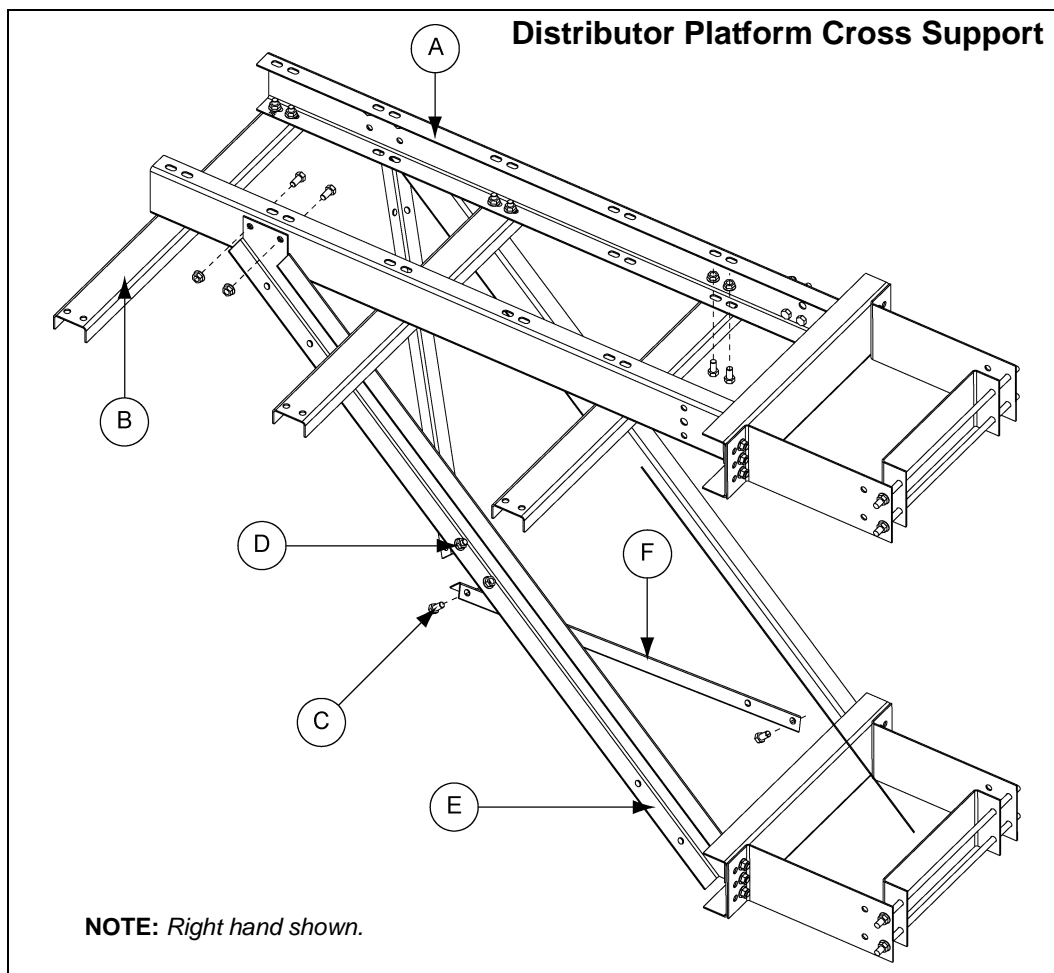

Figure 12B Distributor Platform Cross Support
1. Attach brace channels (GSB30147) (E) to the sides of the support channels using four (4) 1/2" x 1" bolts (S-7935) (C) and nuts (S-8506) (D). Angle the knee braces (GSB30148) (F) across the bottom sides of the brace channels (GSB30147) (E) and attach using four (4) 1/2" x 1" bolts (S-7935) (C) and nuts (S-8506) (D).
2. Assemble the cross supports (DSP1648CS) (B) to the bottom side of the support channels (GSB30210X) (A) using the end and middle sets of holes on the support channels (GSB30210X) (A) using four (4) 1/2" x 1" bolts (S-7935) (C) and nuts (S-8506) (D). *(See Figure 12B.)*